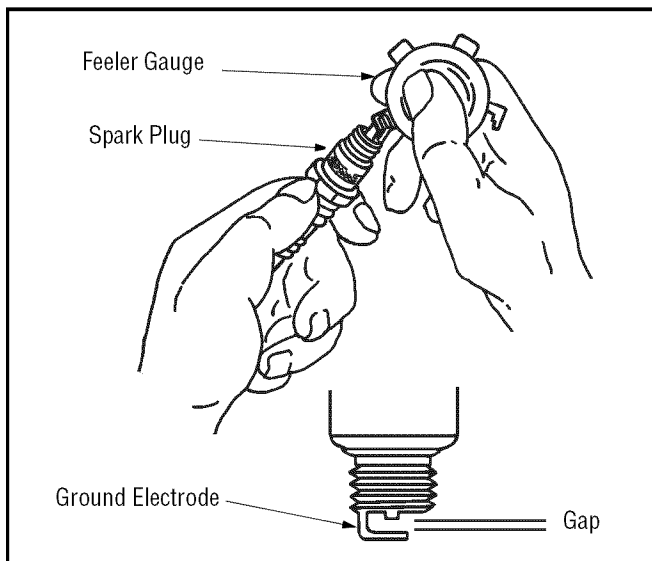

Figure 13
- Check the gap using a feeler gauge and adjust, if necessary, by carefully bending the ground electrode. See Figure 13. Set the spark plug gap to 0.030 in. (.76 mm).